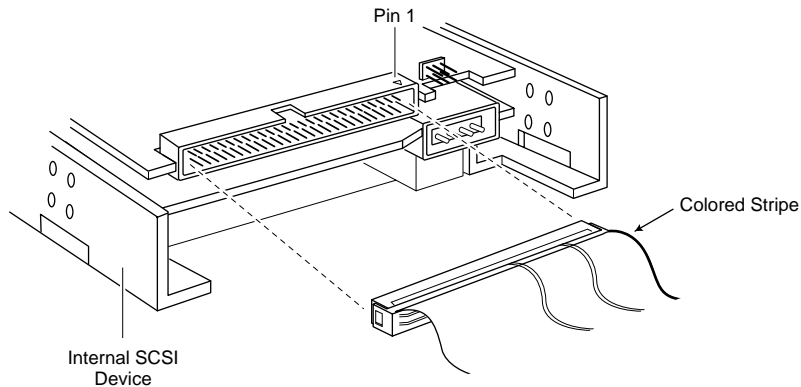

Figure 2-7. Internal SCSI Ribbon Cable to Internal SCSI Device
- 2 Plug the last connector on the ribbon cable into the SCSI connector on the internal SCSI device, as shown in Figure 2-7.